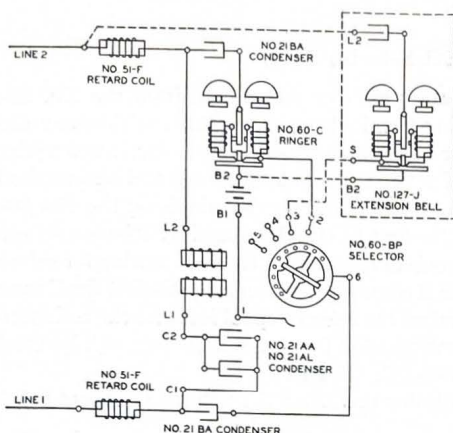

Fig. 1—No. 160-BC Selector Set
**No. 160-BC SELECTOR SET** (see Schematic wiring Fig. 1).